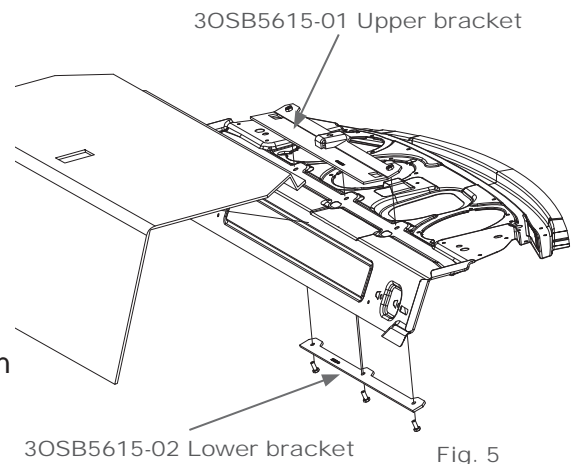

Fig. 5
- A. Remove the rear deck cover to expose the sheet metal underneath. Install the upper welded bracket (3OSB5615-01) and lower attachment bracket (3OSB5615-02) as shown in figure 5 by using the (3X75) bolts and sandwich the two brackets between the vehicle rear deck sheet metal. Open